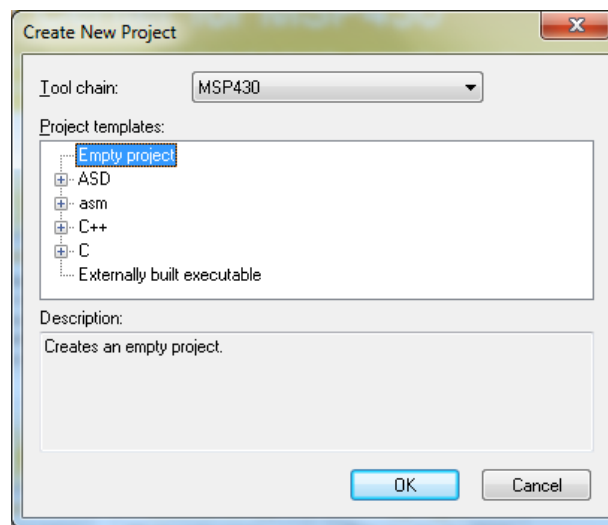

Figure 2. Create New Project dialog box.
1.1. To create a new project, choose *Project>Create New Project*. The *Create New Project* dialog box appears (Figure 2), which lets you base your new project on a project template. Make sure the Tool chain is set to MSP430, and click *OK*. For this tutorial, select the project template *Empty project*, which simply creates an empty project that uses default project settings.